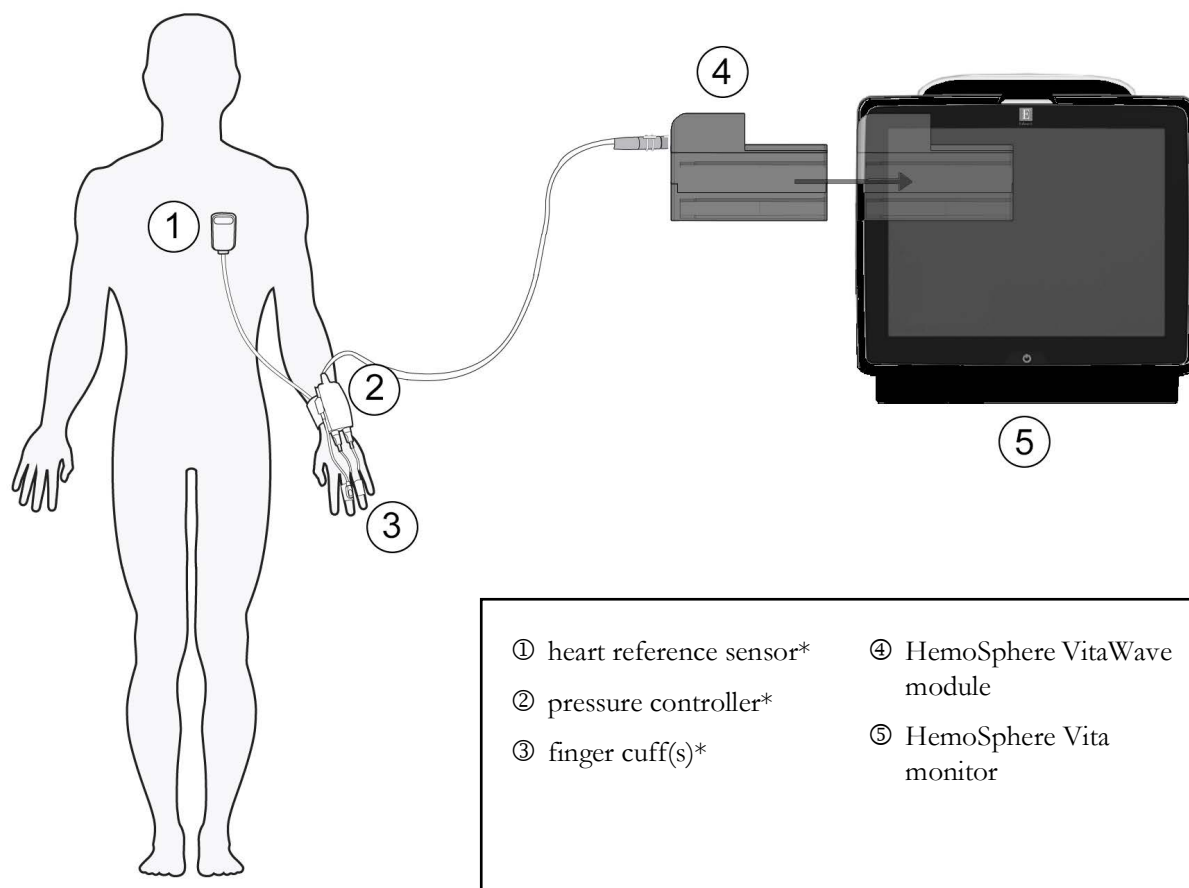

Figure 9-1 HemoSphere Vita non-invasive system connection overview
The HemoSphere Vita non-invasive system is composed of the HemoSphere Vita monitor with VitaWave module and connected pressure controller, heart reference sensor, and compatible Edwards finger cuff(s). See system connections in figure 9-1 on page 97. Accurate measurement of the patient's blood pressure and key hemodynamic parameters is based on the Volume Clamp method, Physiocal method and VitaWave algorithm.
The HemoSphere VitaWave module is compatible with all approved Edwards finger cuffs. See figure 9-1 for an overview of the HemoSphere non-invasive system connections.
NOTE Components indicated by * figure 9-1 legend are APPLIED PARTS as defined in IEC 60601-1 that in normal use necessarily come into physical contact with the patient for the HemoSphere Vita non-invasive system to perform its function.
- 3 Attach the pressure controller cable to the HemoSphere VitaWave module. (figure 9-1)